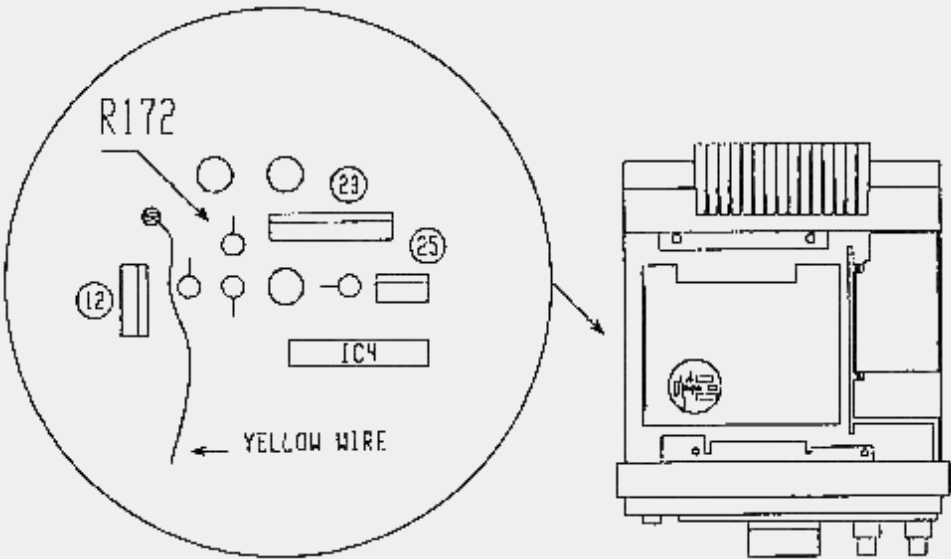

FIGURE 1
- 3. Locate resistor R172 on the component side of the IF board (Figure 1).